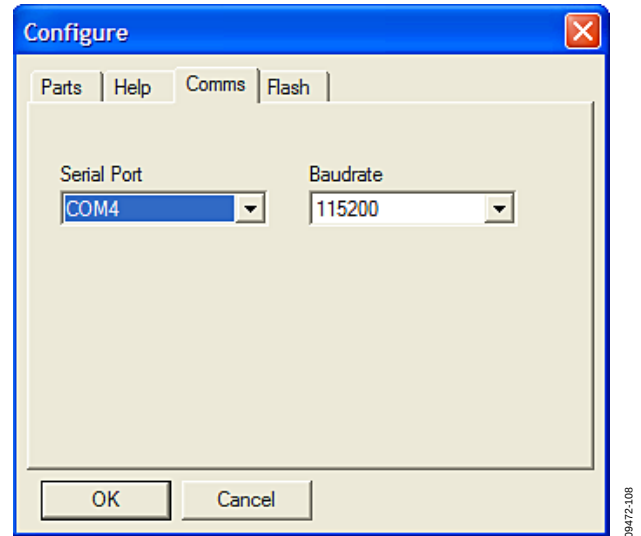

Figure 9. Selecting the Correct COM Port for the Downloader
4. Click **Configure** to display the box shown in Figure 9.
The downloader file should be configured for the **ADuC7026** microcontroller. The only option you may need to change is the COM port. You can select the correct port from the **Serial Port** menu on the **Comms** tab (see Figure 9).